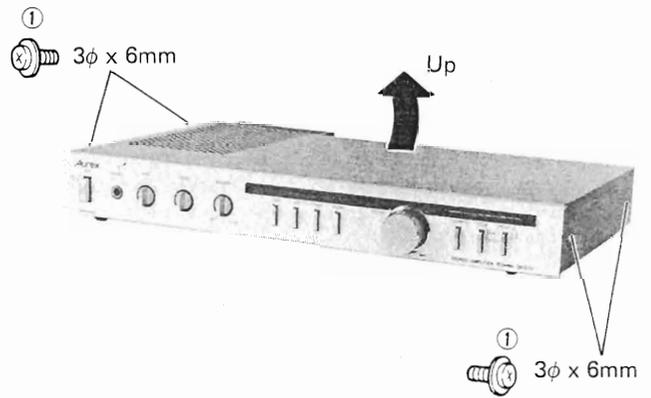

Figure 6
1. Remove four screws ① (3φ x 6mm) from both sides of top cover as shown in Figure 6.
1. Remove top cover as shown in Figure 6.